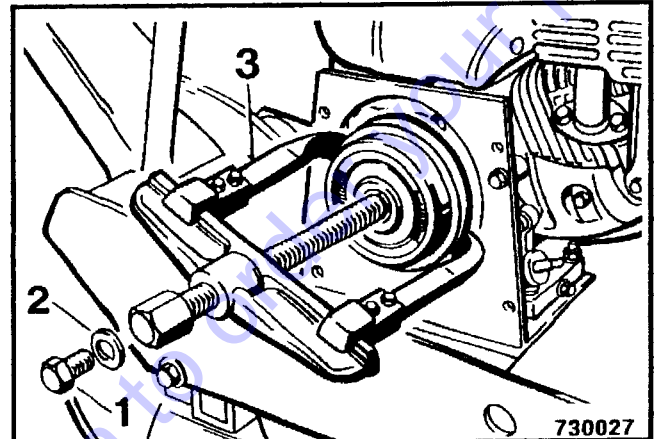

Fig. 1
- Unscrew the mounting screw 1 (Fig. 1) and remove the washers (2).
- Attach the puller (3) and tighten it slightly.